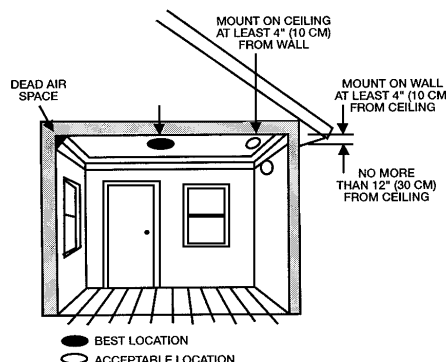

Figure 4: RECOMMENDED SMOKE ALARM MOUNTING LOCATIONS
- **In dead air spaces at the top of a peaked roof or in the corners between ceilings and walls.** Dead air may prevent smoke from reaching a smoke alarm. See Figures 4 and 5 for recommended mounting locations.